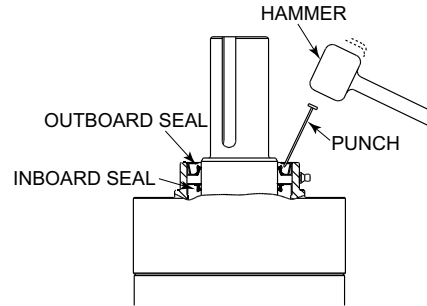

Figure 6.2.1.1 Piercing of Outboard Seal with Punch
5. From the pierced hole use the punch to pry the seal out of the housing. Reference **Figure 6.2.1.2**.